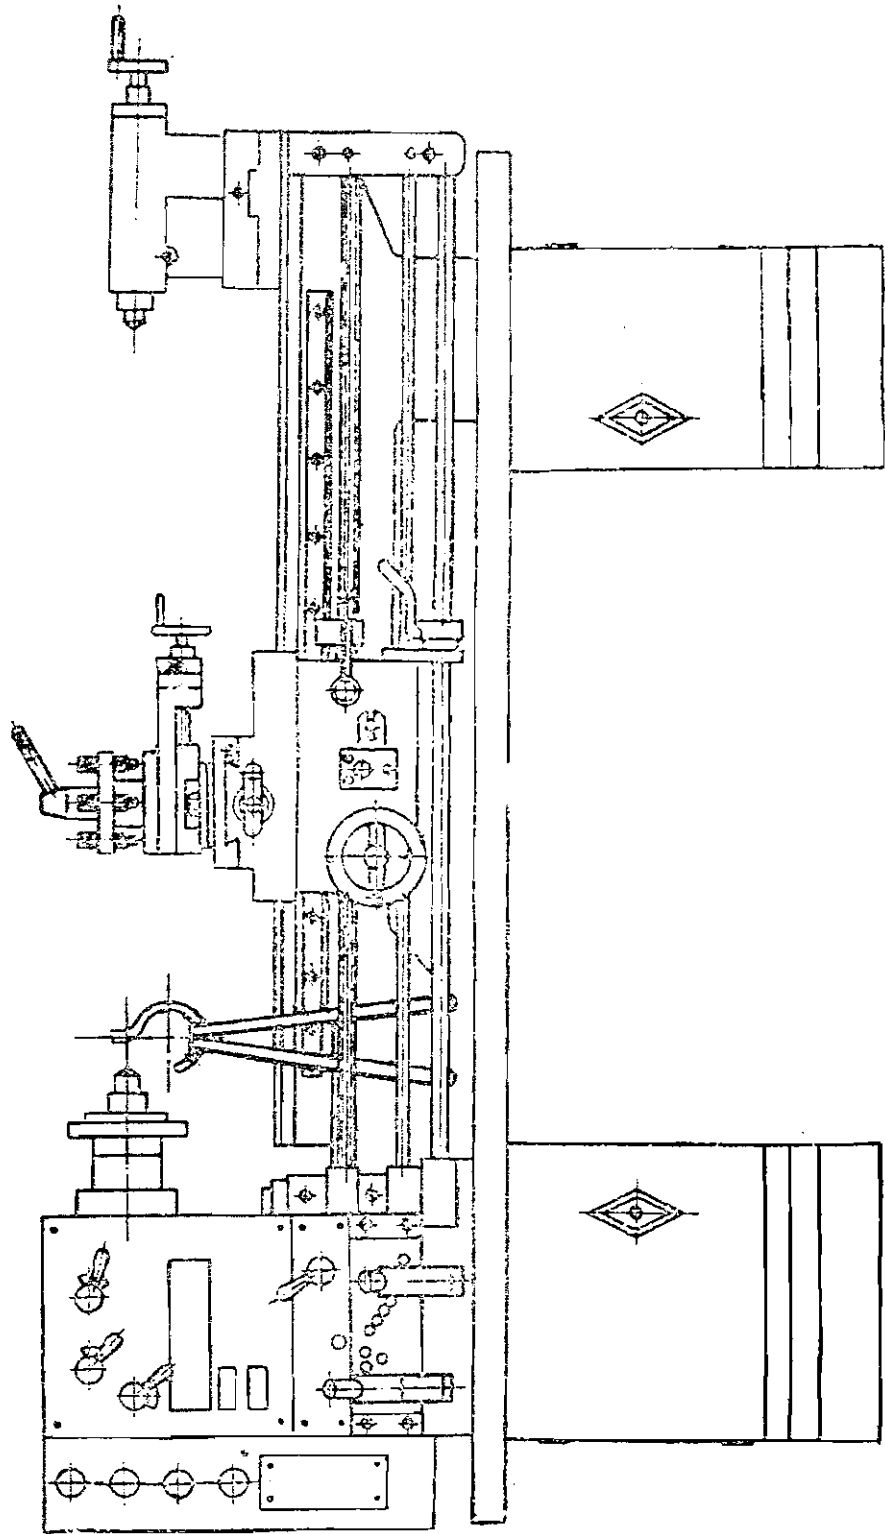

Fig. 2 Hoisting Chart
3. Sling the machine as shown in the hoisting chart Fig. 2 when it is transporting.